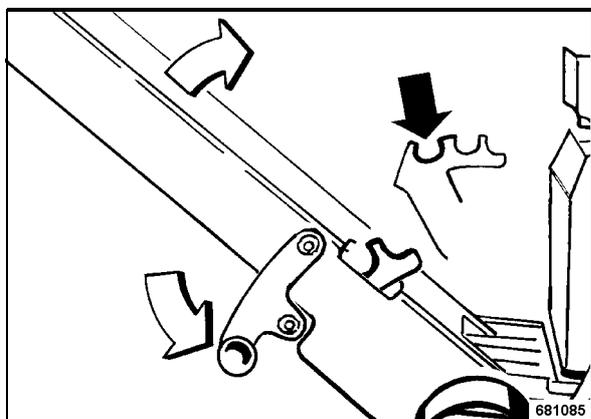

Fig. 44
- Lock the steering rod (Fig. 44) in the first locking position.